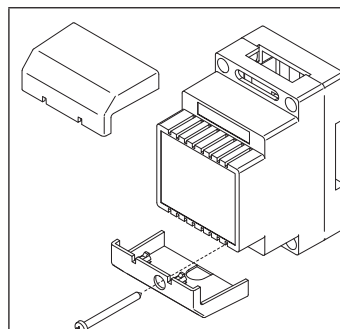

Fig. 3
3. Put the base of the unit on the wall at approx 135cm from the finished floor (Fig. 3) to mark the points for the fixing holes (B) (Fig. 4) remembering that the wires (E) (Fig. 4) must be fed through the hole (F) (Fig. 4). If you use the flush mounting box 503, embed it into the wall vertically at approx. 140cm from the finished floor and the base.
1. Remove the terminal side covers by unscrewing the retaining screws (**Fig. 3**);
To give power supply to the module connect one of the inbuilt IDC male connector ① to the IDC male connector of the camera unit module through the flat cable provided. A further buttons expansion module can be connected to the free IDC male connector of the previous expansion module (**Fig. 3**).